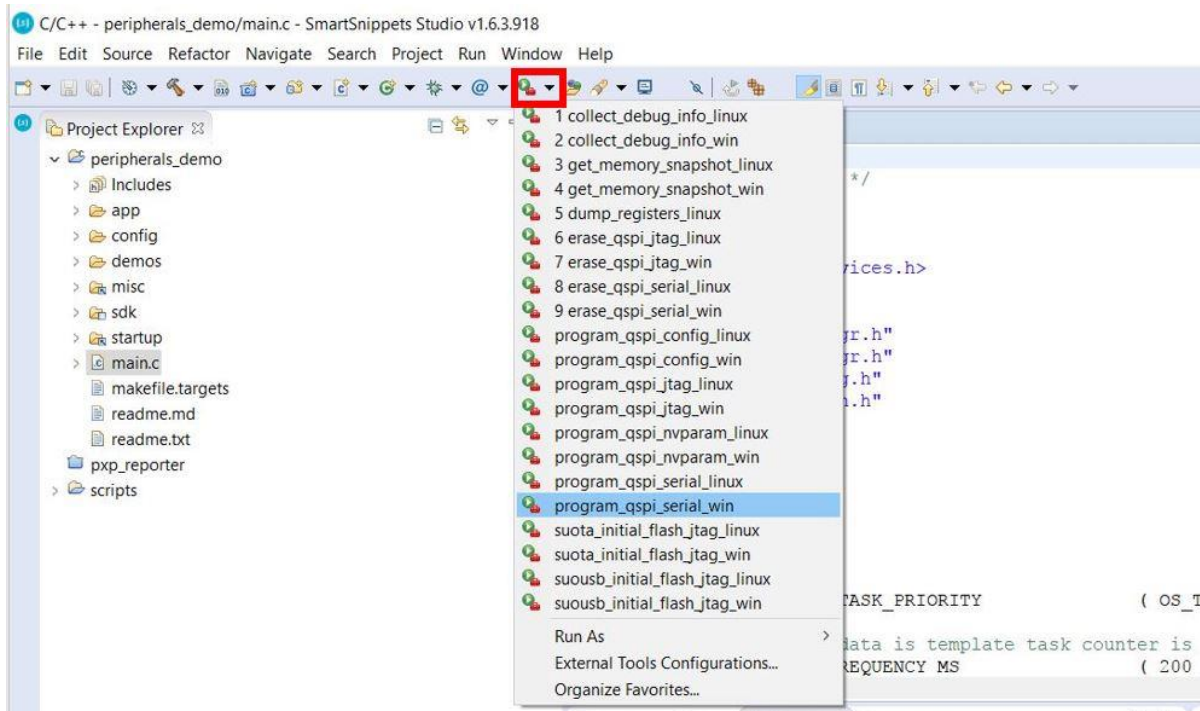

Figure 20: Program the QSPI Flash
- Under the **External Tool Configurations** menu, click on the `program_qspi_serial_win` option as shown in Figure 20 (Or **Run > External Tools > program\_qspi\_serial\_win**).